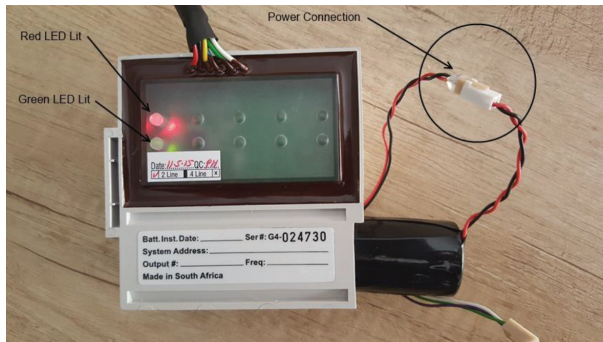

Figure 8
- Referring to Figure 8 below, plug the battery connector socket into the radio receiver modules power connector plug (red and black wires).